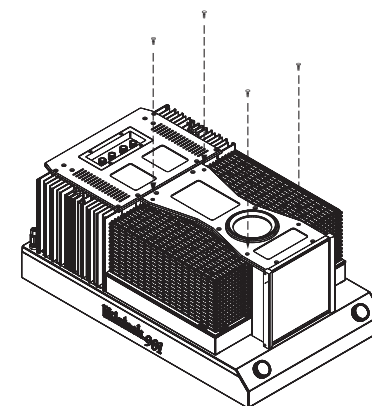

Figure 01— Removing Tube Cover Screws
- Use a Phillips Head #2 screw driver to remove the two screws that hold each of the Tube Covers (Figure 01)
- Replace the two screws to secure the cover (Figure 01)